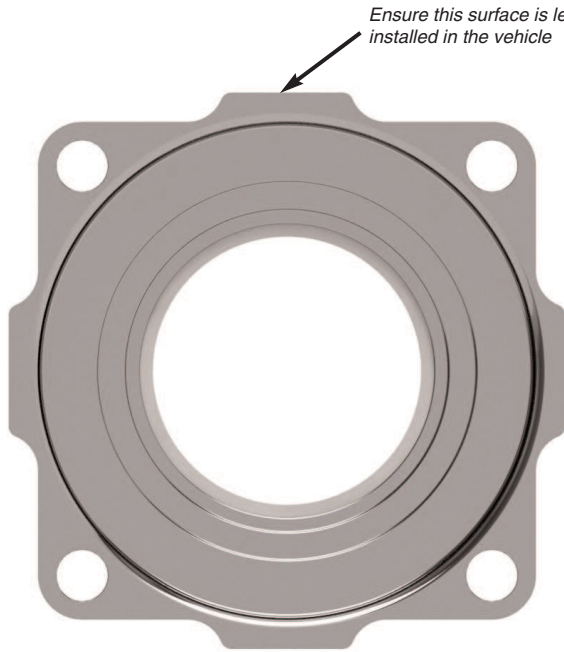

Figure 1: Weld Cup Orientation
- 2) Orient weld cup so the top face of the cup will be level when the housing is in the vehicle. This ensures brake calipers will be at exact 12:00, 3:00, or 9:00 positions. see Figure 1.